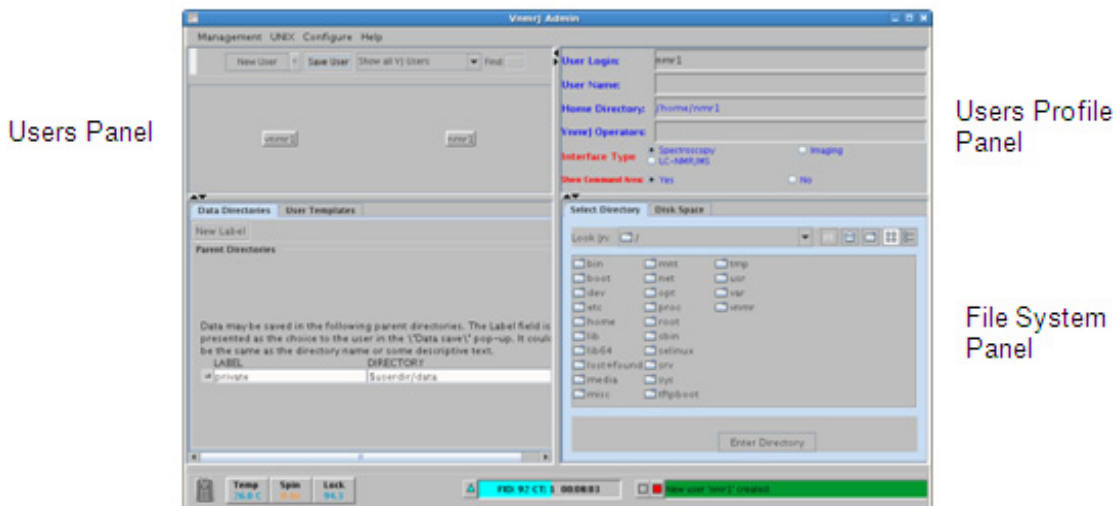

Figure 3 VnmrJ 3 administrator window
- 3 If prompted, enter the administrator password to start VnmrJ 3 Admin; see Figure 3.
The VnmrJ 3 Admin interface provides the tools for administering VnmrJ 3 software and user accounts, see Figure 3. Select Administration functions from the menu bar.